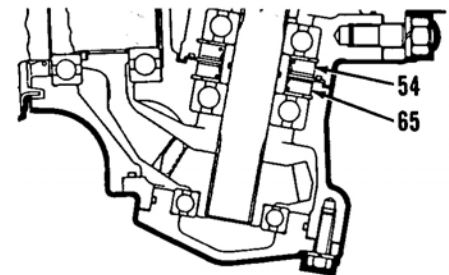

Fig. 7—Install seals (54 and 65) with lips facing as shown.
Reassembly is reverse order of disassembly. Install new "O" rings and gasket (81). Be sure to install seal (54—Fig. 7) with lip facing towards top and seal (65) with lip facing towards bottom.